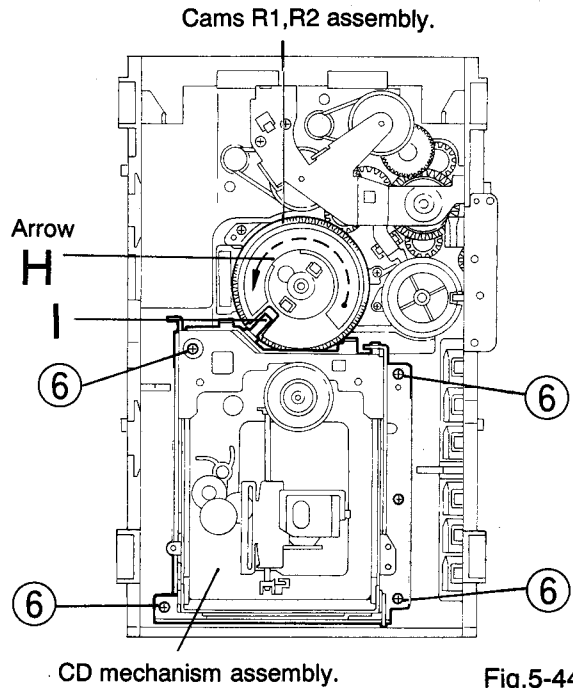

Fig.5-44
(See Fig. 5-44)
1. While turning the cams R1 and R2 assembly in the arrow direction "H", align the shaft "I" of the CD mechanism assembly to the position shown in Fig. 5-44.
2. Remove the four screws ⑥ retaining the CD mechanism assembly (See Fig. 5-44).